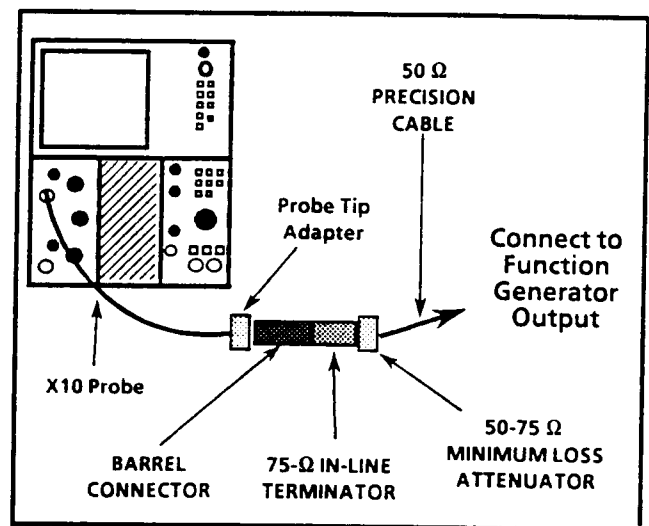

Fig. 5-6. Connecting Test Oscilloscope to Function Generator before checking Transient Response.
- a. Connect a precision 50 Ω cable and a 50-to-75 Ω minimum loss attenuator to the Function Generator Output. Connect a barrel connector and a 75 Ω inline terminator to the attenuator. Connect the 75 Ω terminator, through a probe-tip adapter and a X10 probe, to the the Test Oscilloscope Channel 1 input. See Fig. 5-6.